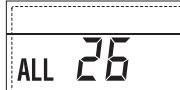

Fig. 23/20
- EXTERNAL PROBE ANOMALY "FLASHING" (fig. 23/13)